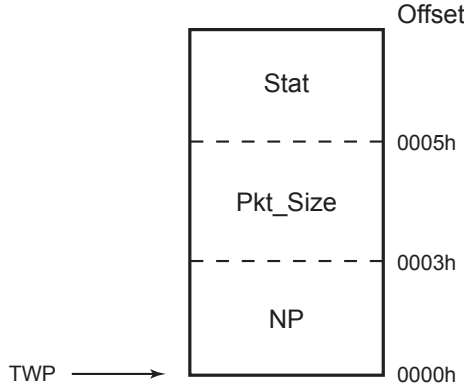

Figure 62. Descriptor Table Entries
The TxDMA module moves the next packet to be transmitted from EMAC memory into the TxFIFO. Whenever the polling timer expires, the TxDMA reads the High status byte from the Tx descriptor table pointed to by the Transmit Read Pointer, TRP. Polling continues until the High status Read reaches bit 7, when the Emac\_Owns ownership semaphore, bit 15 of the descriptor table (see Table 178 on page 299) is set to 1. The TxDMA then initializes the packet length counter with the size of the packet from descriptor table bytes 3 and 4. The TxDMA moves the data into the TxFIFO until the packet length counter downcounts to zero. The TxDMA then waits for Transmission Complete signal to be asserted to indicate that the packet is sent and that the Transmit status from the EMAC is valid. The TxDMA updates the descriptor table status and resets the ownership semaphore, bit 15. Finally, the Tx\_DONE\_STAT bit of the EMAC Interrupt Status Register is set to 1, the address field, DMA\_Address, is updated from the descriptor table next pointer, NP (see Figure 62 on page 298). The High byte of the status is read to determine if the next packet is ready to be transmitted.
The descriptor table contains three entries: the next pointer (NP), the packet size (Pkt\_Size) and the packet status (Stat), as illustrated in Figure 62.